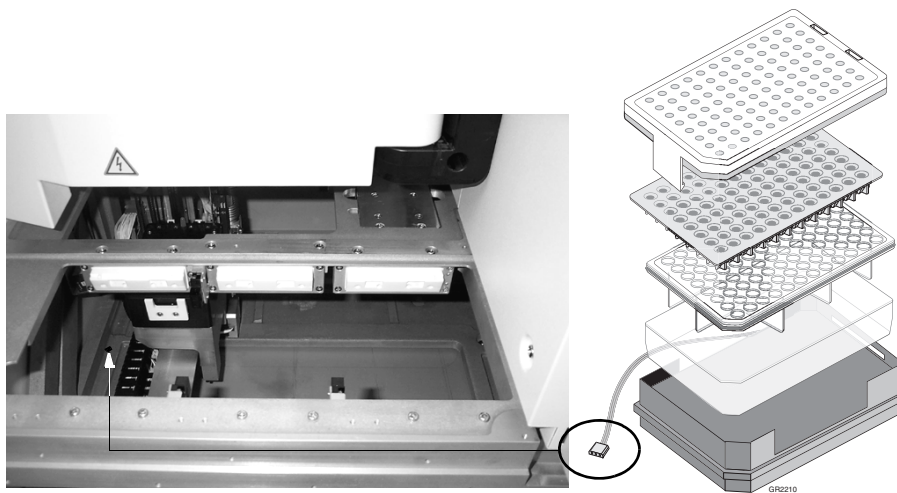

Figure 1-18 Connecting the Running Buffer Plate to the heater outlet
7. Connect the running buffer plate base cord into the heater outlet within the instrument (see Figure 1-18 below).